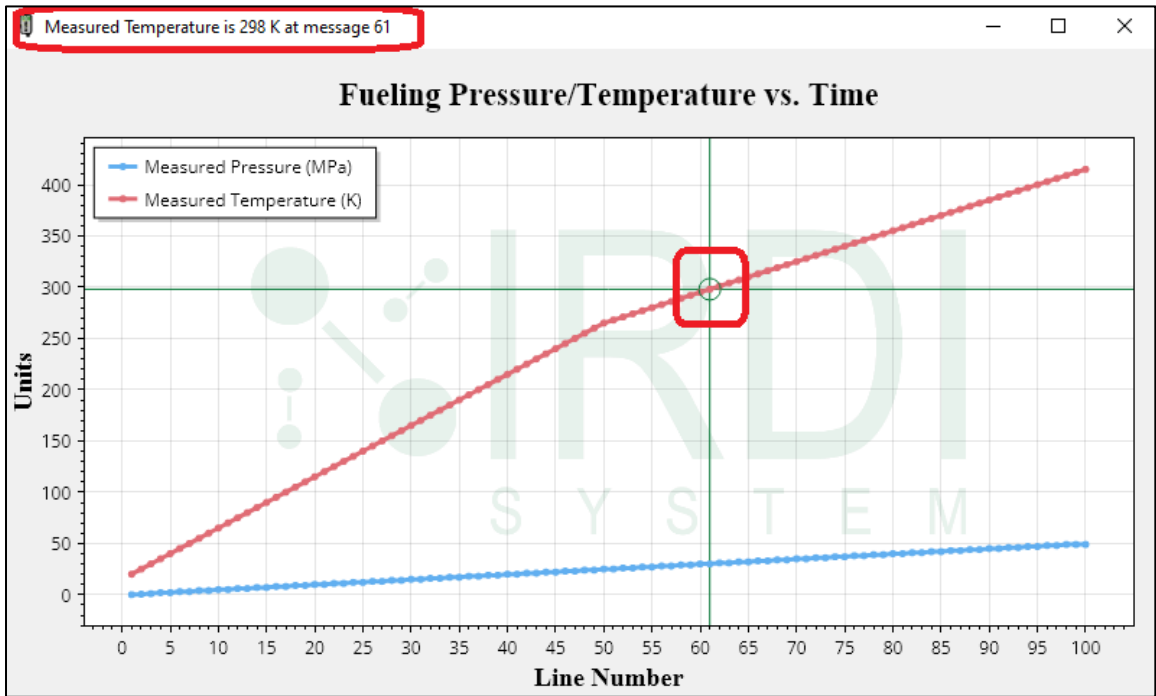

FIGURE 6-52 HHT TEST PATTERN GENERATOR SOFTWARE –CHECKING GRAPHED TEMPERATURE
STEP 5	To check the value of temperature at any point in the graphed data, use your mouse to hover the cursor over the red line on the graph, and click the mouse at the location you want to check – a circle will appear at that location on the red line – see Figure 6-52. The temperature value at the point where the cursor is located will be displayed at the top left of the popup window, along with the associated IRDI message number.